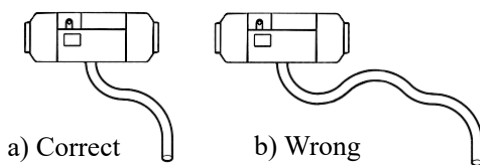

Fig.23
4.6.3 Both the air inlet pipe and exhaust pipe shall come outwards and downwards from the heater (Fig. 23), otherwise a $\Phi 4\text{mm}$ hole shall be prepared at the bottom of the pipe for discharge of condensation water.